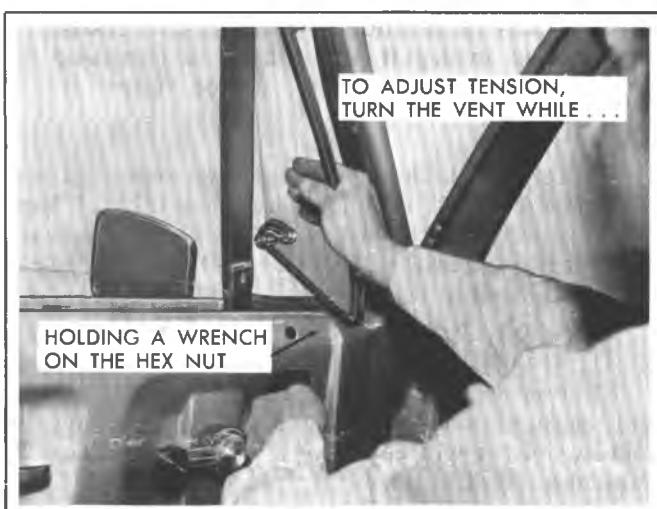

Fig. 2D-30--Adjusting Tension
5. Push window forward and tilt front portion of window up until rear roller is disengaged. See figure 2D-33.